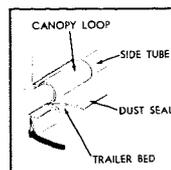

FIGURE 12
18. Pull up sides of canopy and install side tubes (57) in loops of canopy as shown in Figure 12.
19. Insert reduced ends of side tubes (57) into bottom U-Tubes (55).
21. Place Canopy Frame Assembly on Dump Trailer with side dust seals between trailer bed and frame tubing as shown in Figure 12.